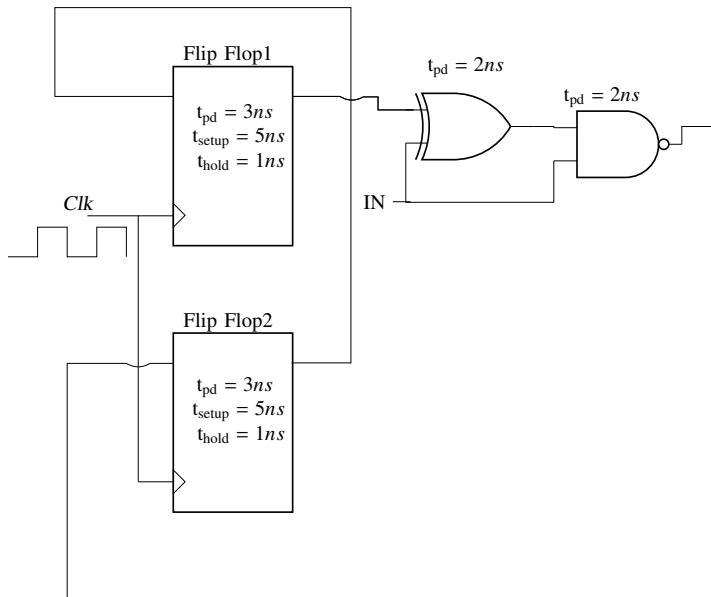

Fig. 5.22
22. For the components in the sequential circuit shown in Fig. 5.22 below, t_{pd} is the propagation delay, t_{setup} is the setup time, and t_{hold} is the hold time. The maximum clock frequency (rounded off to the nearest integer) at which the given circuit can operate reliably is _____ MHZ. (GATE EC2020 – 50)